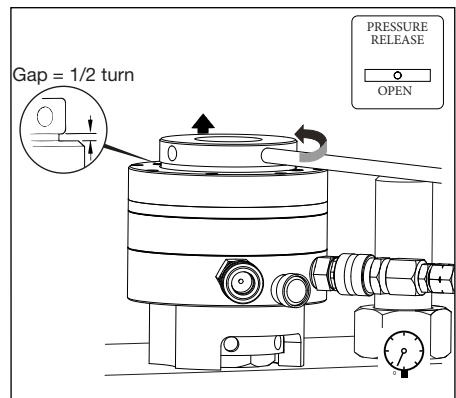

FIGURE 15, TURNING UP THE THREADED PULLER
- BEFORE applying any hydraulic pressure; examine the puller on each tensioner, the puller should be seated on the ram. Unscrew the puller by 1/2 turn. This will raise the puller above the top washer, preventing the puller becoming locked on to the ram when the bolt tension is released. See Figure 15.